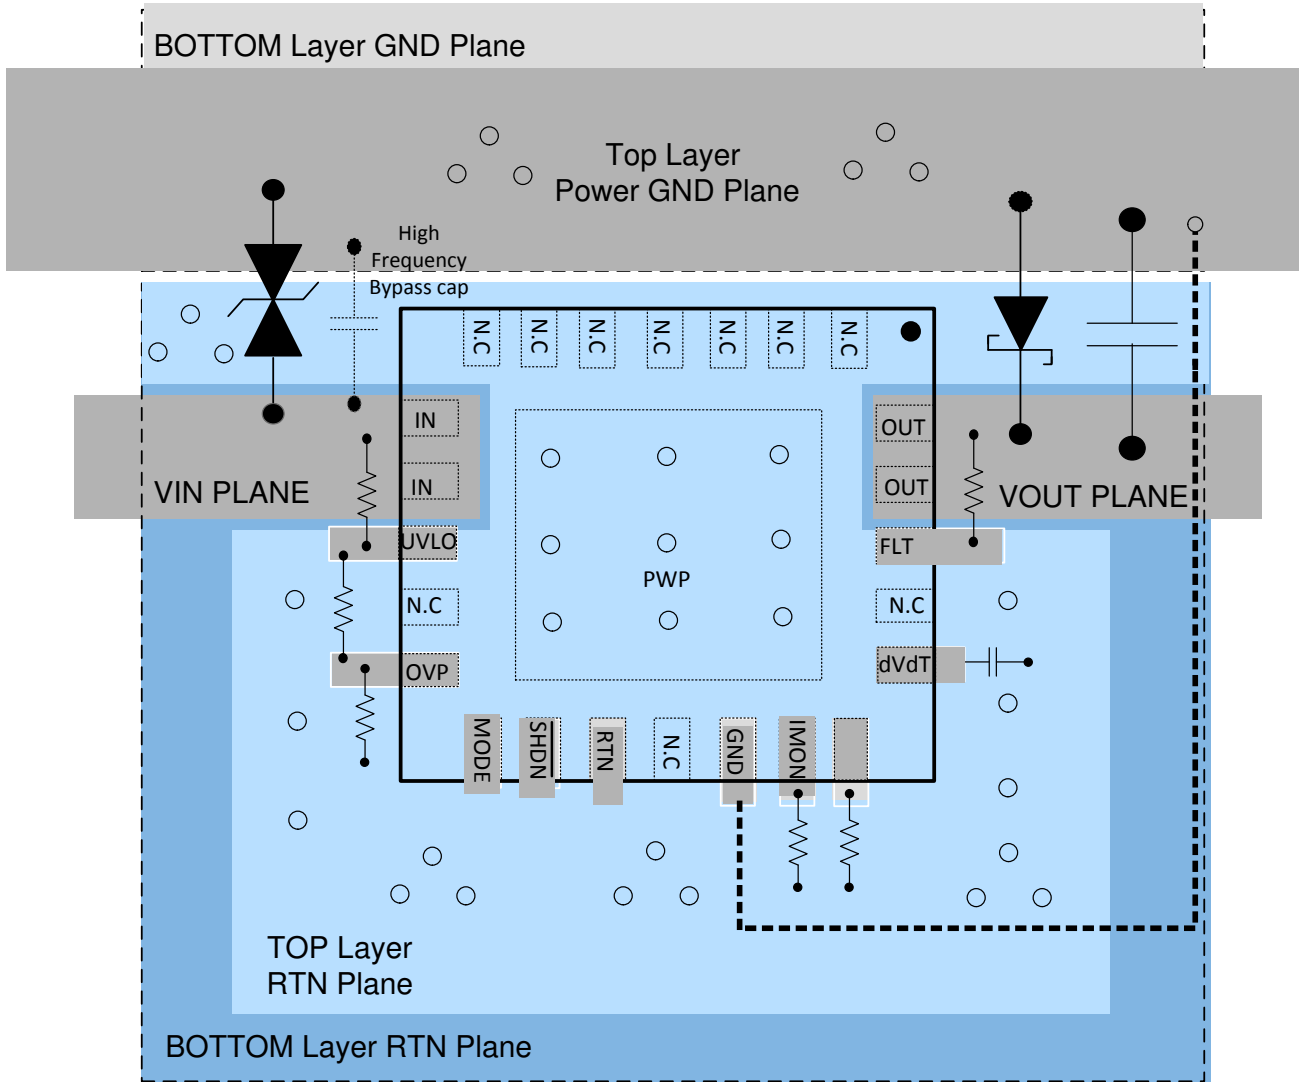

图 12-2. Typical PCB Layout Example With VQFN Package With a 2 Layer PCB
- The optimum placement of decoupling capacitor is closest to the IN and GND terminals of the device. Care must be taken to minimize the loop area formed by the bypass-capacitor connection, the IN terminal, and the GND terminal of the IC. See Figure 12-1 and Figure 12-2 for PCB layout examples with HTSSOP and VQFN packages respectively.